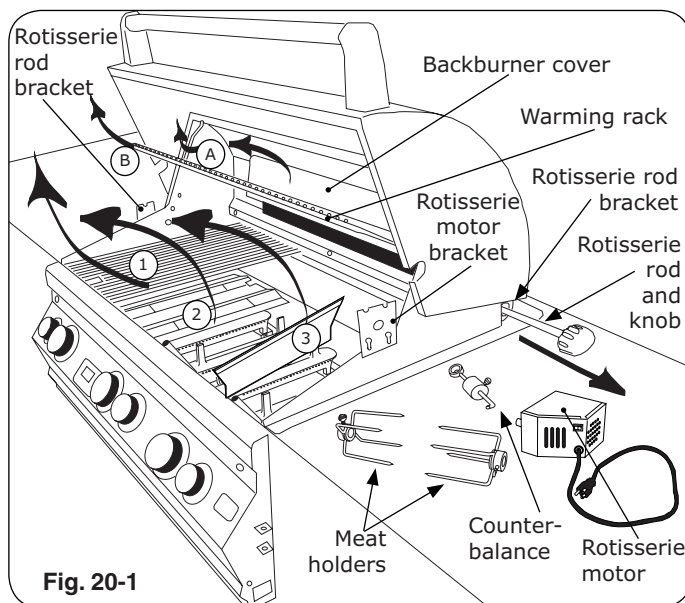

Fig. 20-1
3. Remove rotisserie rod from rear bracket (Fig. 20-1) attach knob if necessary.